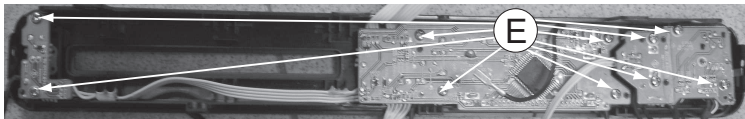

Figure 8
- 1) Loosen 10 screws "E" on the top of DISP+LED+VOL & MP3 IN Board as shown in figure 8.